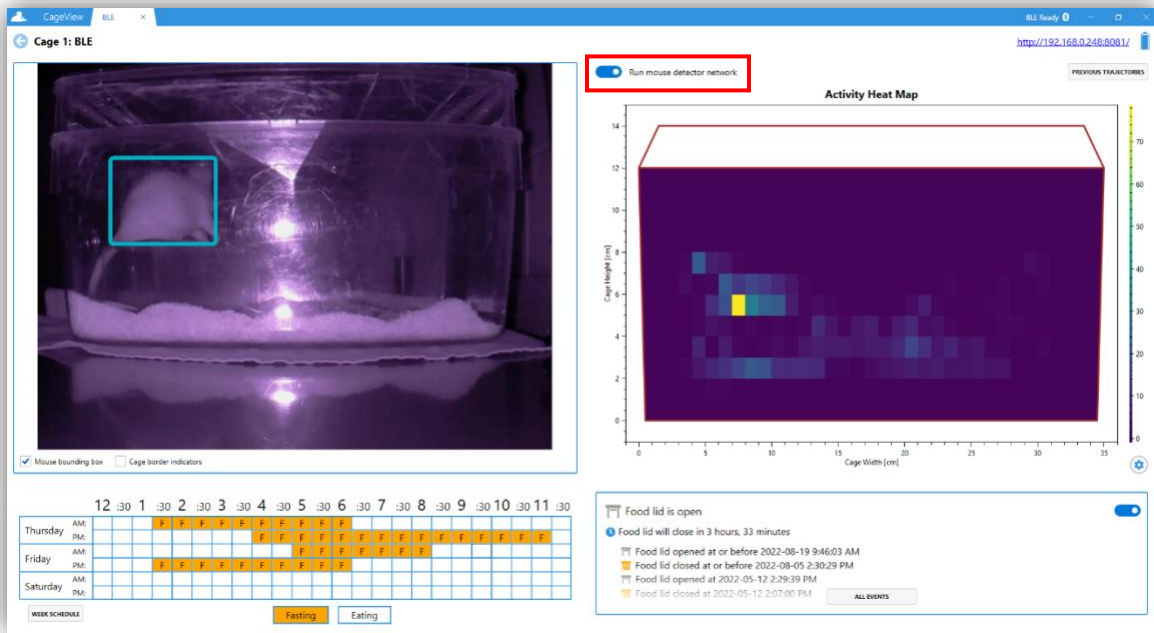

Figure 25. CageView - Run mouse detector network
5.3.1. As shown in **Figure 25**, switching the "**Run mouse detector network**" would trigger the mouse detector feature to be executed for each video frame. Having a dedicated GPU installed will significantly improve the performance of this feature execution, as it will be running in real-time for each frame.